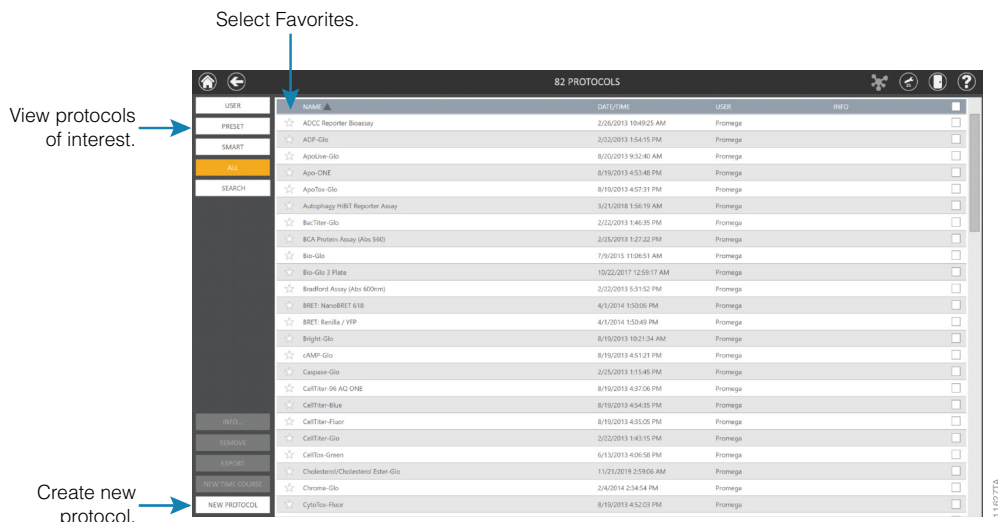

Figure 13. GloMax® Explorer 'Protocols' screen.
1. To create a new protocol, from the 'Protocols' screen, tap the **New Protocol** button at the bottom of the screen (Figure 13). To edit an existing protocol, select a preset or user-defined protocol from the 'Protocols' screen (Home → Protocols).